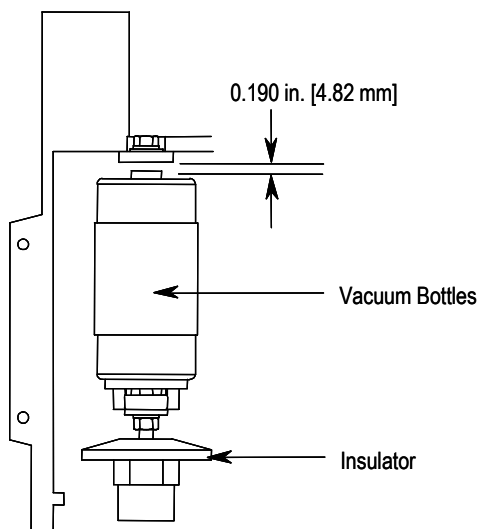

Figure 4.6 – Establishing Contact Gap
5. Install a new bottle by tilting an insulator forward and threading the bottle onto the stud (reverse of Step 3). Take care to ensure the threads are aligned as cross-threading can occur. Thread the bottle down, leaving a gap of approximately $4.82 \text{ mm} \pm 0.25 \text{ mm}$ ($0.190 \text{ in.} \pm 0.01 \text{ in.}$) between the top of the bottle and the bottom surface of the line terminal, as shown in Figure 4.6. Use inside calipers and a micrometer, or another accurate measuring tool, to set the gap. This gap is precisely calibrated later in this section. The wear indicator line on the bottom of the bottle's movable shaft must be facing forward (i.e. visible from the front of the contactor). Repeat this step for the remaining two bottles.